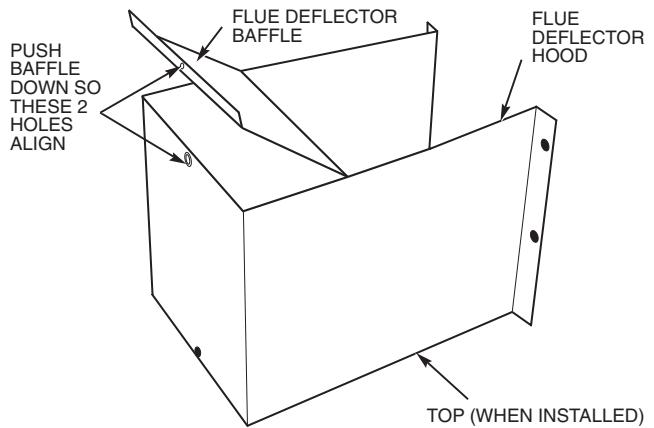
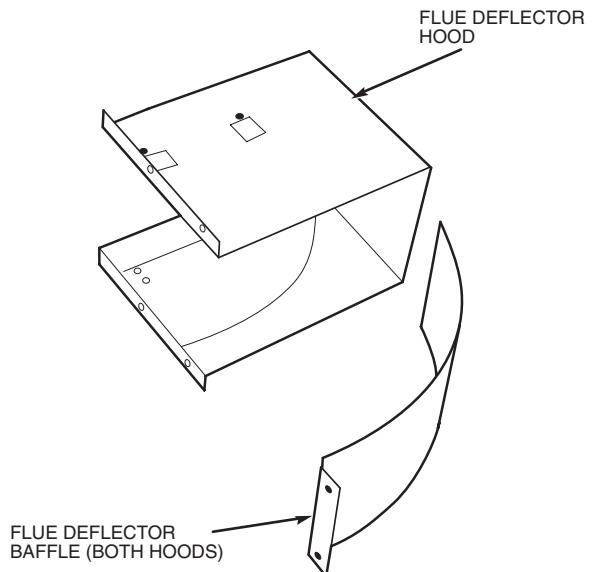
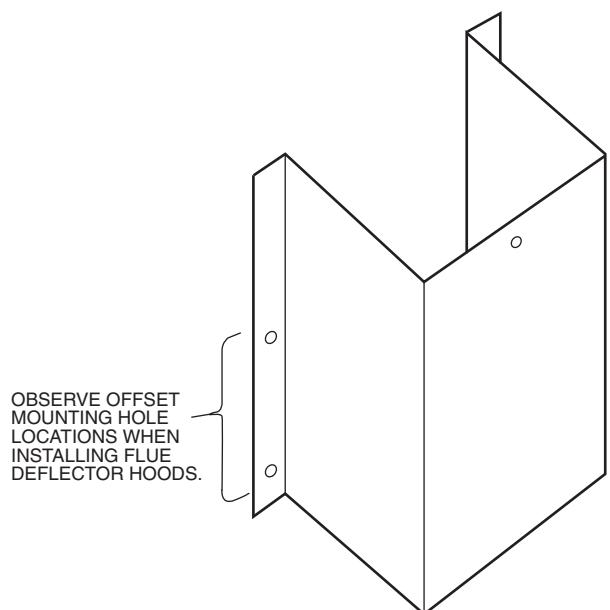

Fig. 62 — Flue Deflector Baffle, 030-050 and 075-105 Units (V-Type)
Fig. 63 — Flue Deflector Baffle, 055-105 Units (Curve-Type)
Fig. 64 — Mounting Deflector Hoods
3. Install flue deflector baffle inside flue deflector hood. See Fig. 62 for sizes 030-050 and 075-105 (V-type deflector). See Fig. 63 for sizes 055-105 (curve-type deflector). Install flue deflector hood assembly over each flue outlet hood (installed in Step 2). Observe the offset mounting hole locations in the deflector hood flanges when attaching hood to panel (see Fig. 64). Holes in the mounting flange must be at the bottom when attached.